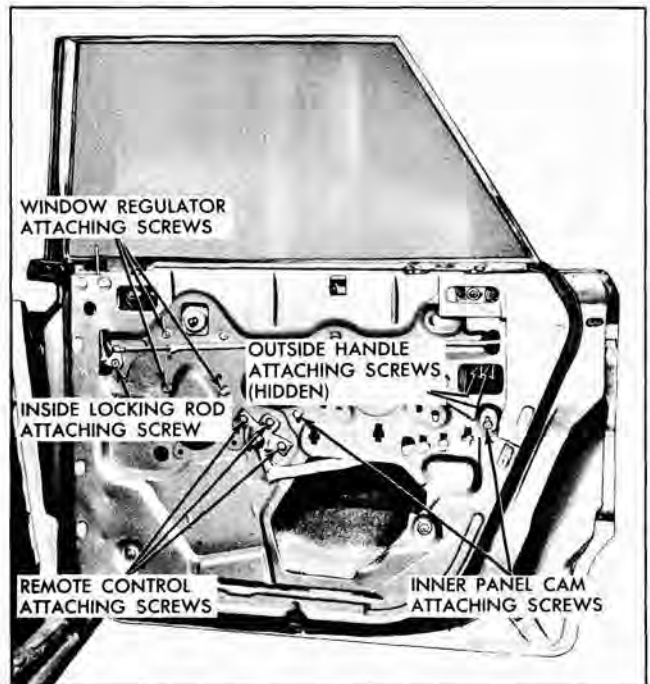

Fig. 3-39 Rear Door - "39" Style
ciently to expose inner panel cam attaching screws (Fig. 3-39).
1. To correct a condition where the window glass is cocked in glass run channels, loosen door inner panel cam attaching screws, adjust cam as required, and tighten screws (Fig. 3-39).
5. Disengage rod from spring clip on door inner panel. Remove inside locking rod assembly attaching screw, spring washer and washer cup and remove assembly from door (Fig. 3-39).
2. Remove remote control attaching screws and remove remote control from connecting rod (Fig. 3-39).